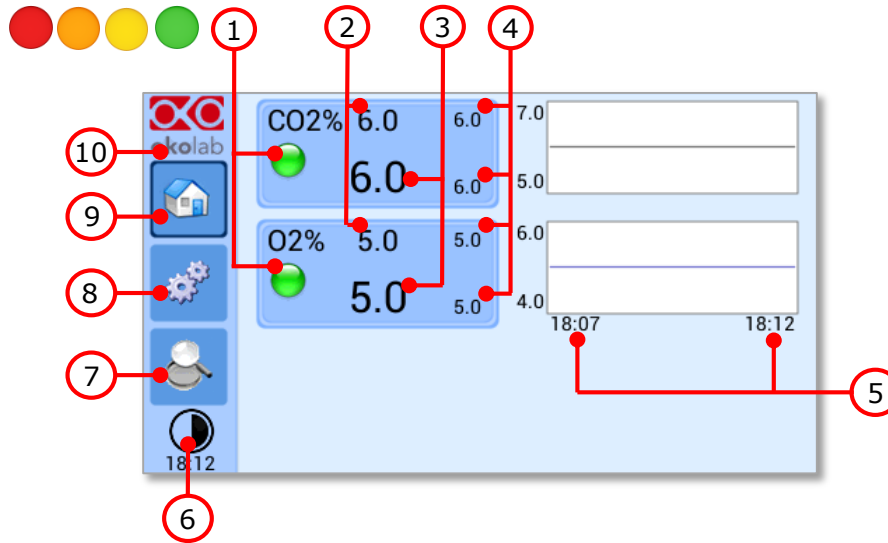
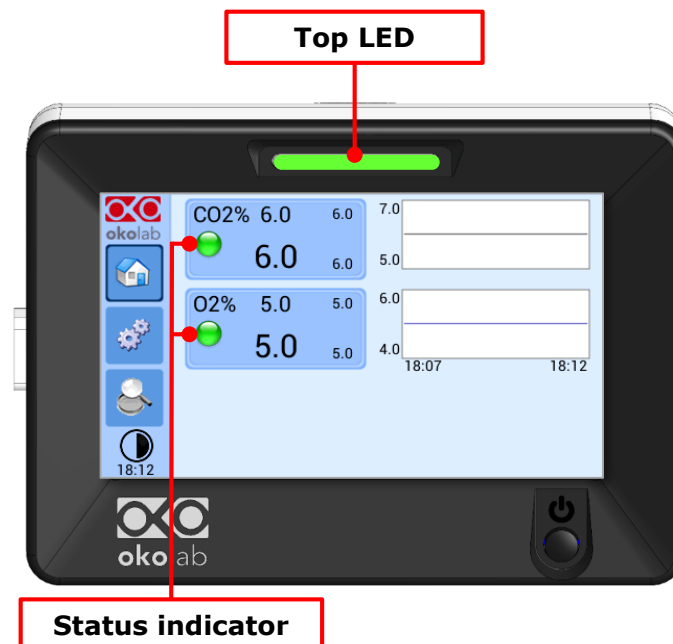

Figure 18. Homepage of the CO2/O2 Controller Touch Screen Display.
Figure 23. Status Indicator and TOP LED.
8. Once the system has been initialized the Status LED on the front of CO2-O2-UNIT-BL [0-10; 1-18] will stop blinking and will turn steadily on. The Homepage will appear on the touch screen, the color of the Status Indicator (see 1 in Figure 18 and Figure 23) on the gas tab will be yellow at the start.
Tip ► After any change in the Setpoint value, CO₂-O₂-UNIT-BL [0-10; 1-18] enters into a transient regime, the Status Indicator and the TOP LED (see Figure 23) turn yellow (see paragraph 9.2). During the transient regime, CO₂-O₂-UNIT-BL [0-10; 1-18] will not trigger on alarm.
CO2-O2-UNIT-BL [0-10; 1-18] can assume four different status, which are represented by the colors assumed by the Status Indicator and by the TOP LED (see Figure 23):
Tip ► The TOP LED follows the same color code as the Status Indicator (see Figure 23). To enable/disable the TOP LED follow the instruction reported in paragraph 9.3.2.3.